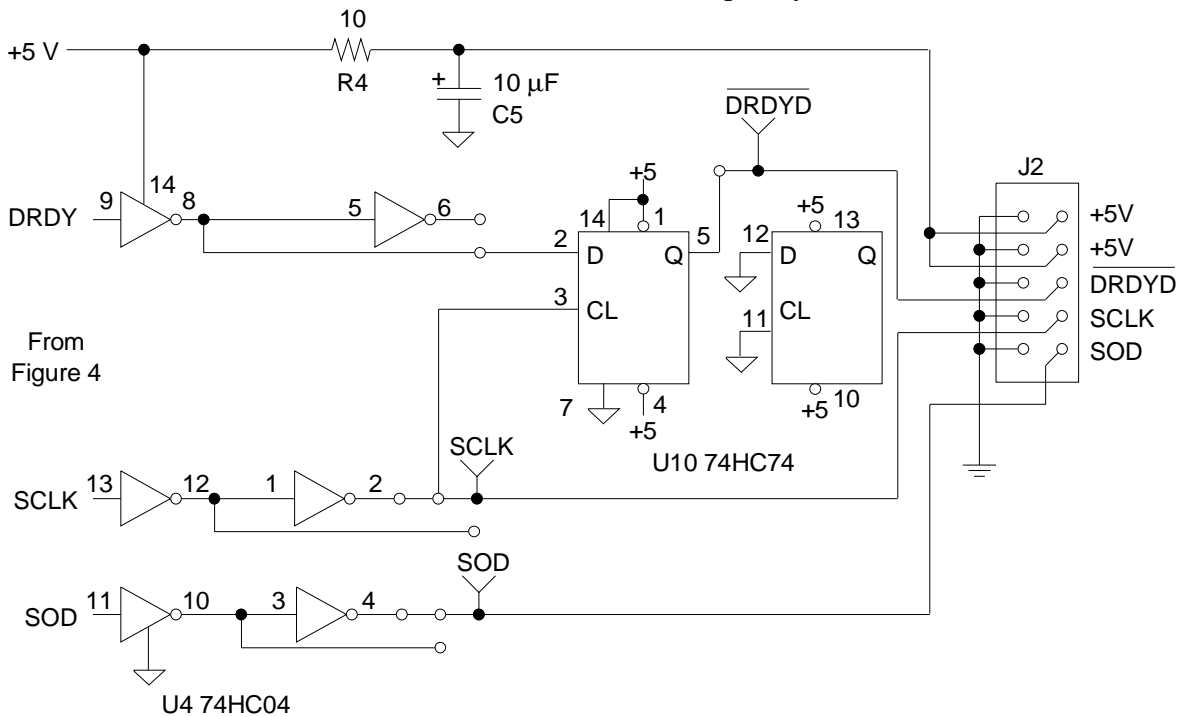

Figure 6. Serial Latch Interface on CDB5321 (Rev C) board.
*Default to use Figure 6 interface.